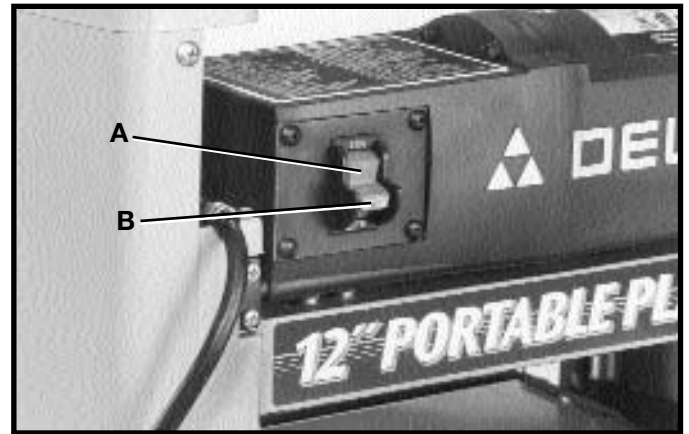

Fig. 13
The “ON/OFF” switch (A) Fig. 13, is located on the front of the planer motor. To turn the machine “ON”, move the switch toggle (B) to the up position. To turn the switch “OFF”, move the switch toggle (B) to the down position.